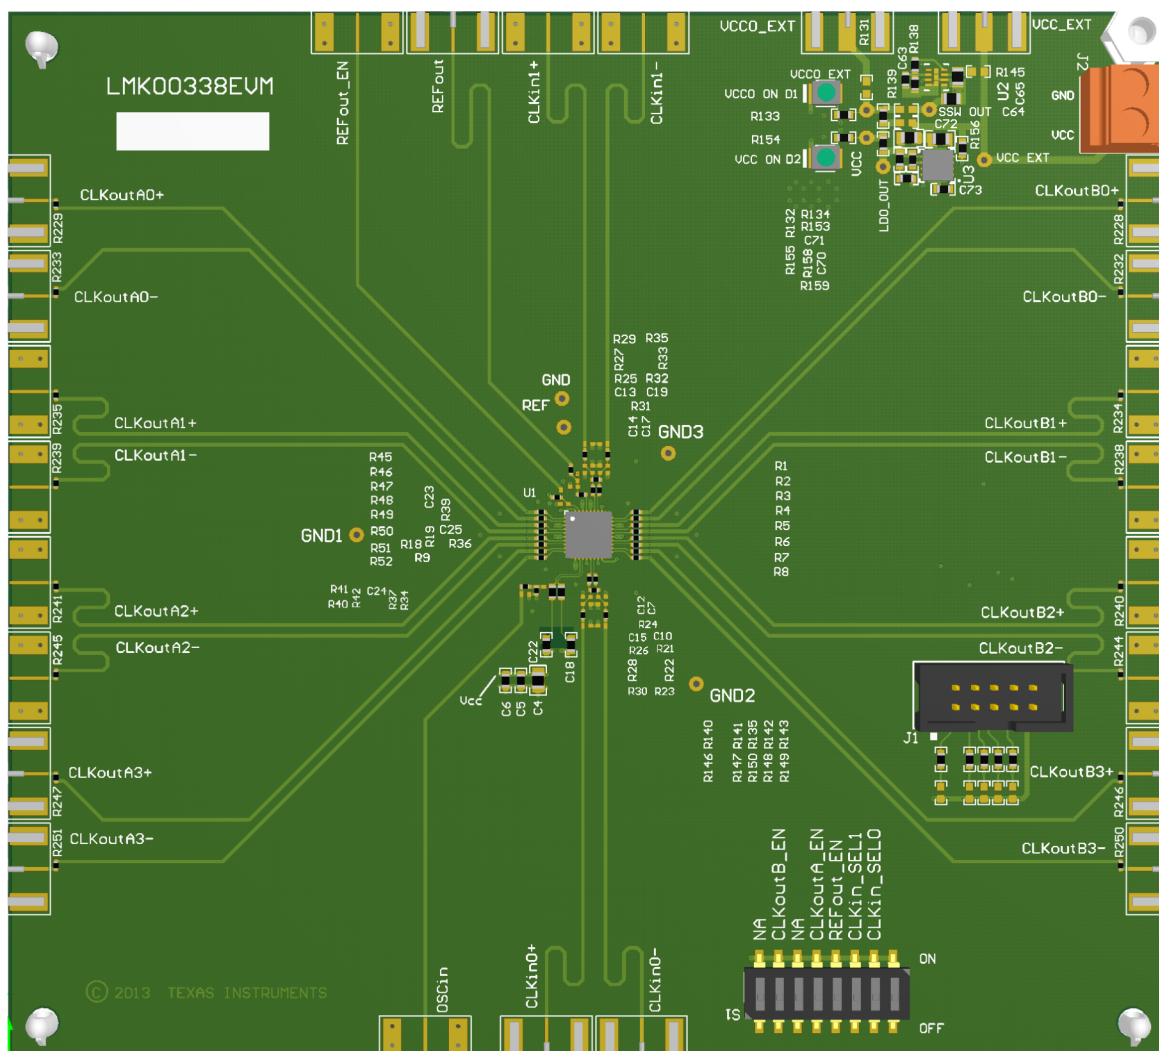

Figure 22. LMK00334-Q1 Layout Example
- For DC-coupled operation of an HCSL driver, terminate with 50 Ω to ground near the driver output as shown in Figure 22.